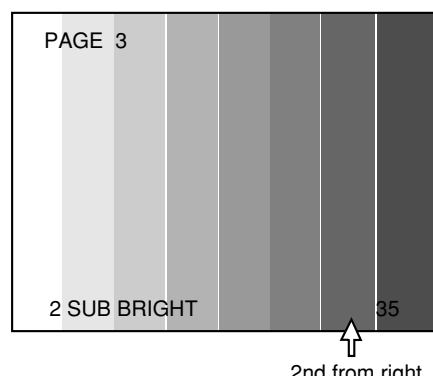

Fig.3-1
1. Using the volume keys on the jig remote controller, adjust the scale of the second last from right to be slightly brightened. (Fig. 3-1)